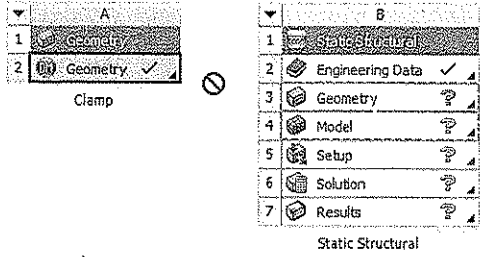

Figure 6-10 The **Static Structural** analysis system with the **Geometry** and **Model** cells highlighted
- 2. Next, click and drag the **Geometry** cell of the **Clamp** component system; two cells: **Geometry** and **Model** are highlighted with a green outline, as shown in Figure 6-10, indicating that the existing geometry can be shared with the **Geometry** cell or with the **Model** cell of the **Static Structural** analysis system.